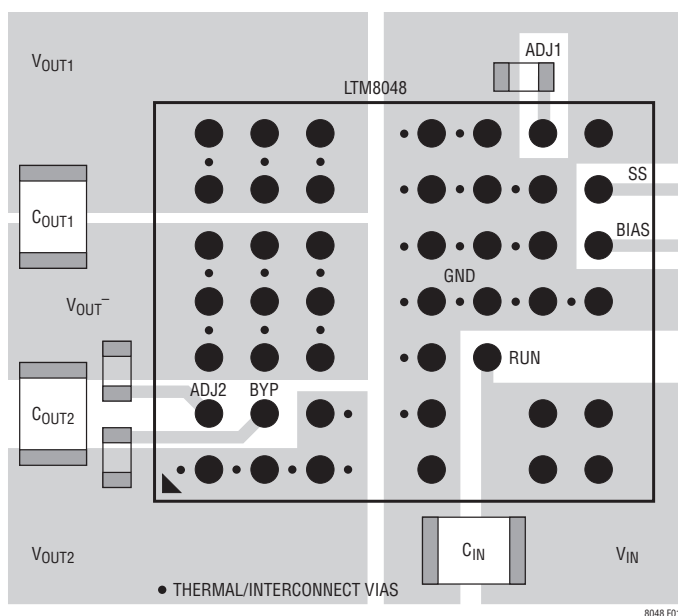

Figure 1. Layout Showing Suggested External Components, Planes and Thermal Vias
Most of the headaches associated with PCB layout have been alleviated or even eliminated by the high level of integration of the LTM8048. The LTM8048 is nevertheless a switching power supply, and care must be taken to minimize electrical noise to ensure proper operation. Even with the high level of integration, you may fail to achieve specified operation with a haphazard or poor layout. See Figure 1 for a suggested layout. Ensure that the grounding and heat sinking are acceptable.
6. Use vias to connect the GND copper area to the board's internal ground planes. Liberally distribute these GND vias to provide both a good ground connection and thermal path to the internal planes of the printed circuit board. Pay attention to the location and density of the thermal vias in Figure 1. The LTM8048 can benefit from the heat sinking afforded by vias that connect to internal GND planes at these locations, due to their proximity to internal power handling components. The optimum number of thermal vias depends upon the printed circuit board design. For example, a board might use very small via holes. It should employ more thermal vias than a board that uses larger holes.